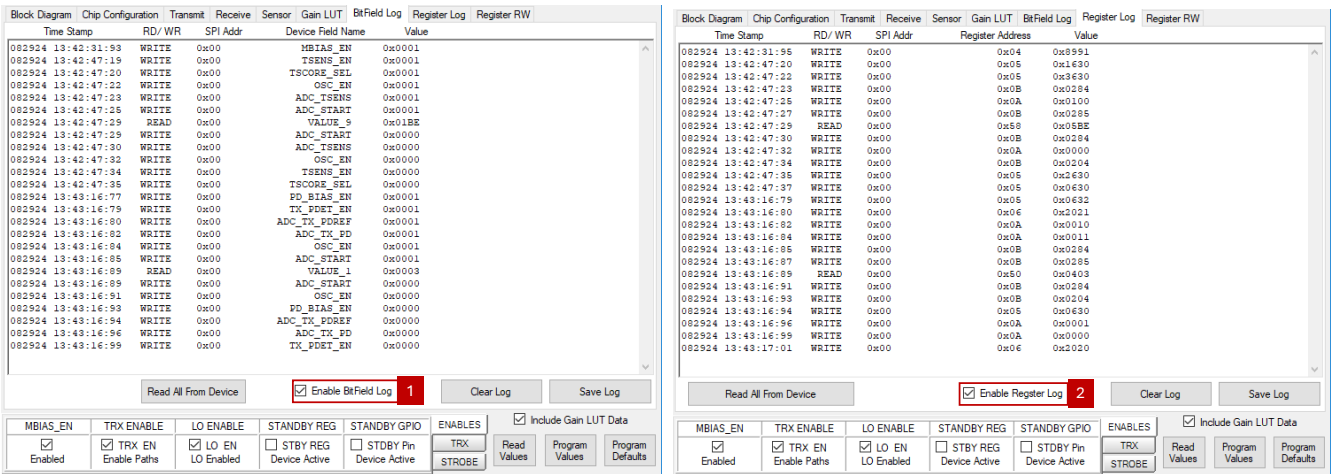

Figure 7. BitField Log and Register Log Panels
Important: The **Enable BitField Log** and **Enable Register Log** checkboxes (Figure 7, items 1 and 2) must be selected beforehand. The **BitField Log** and **Register Log** panels will also keep track of all the SPI write commands.